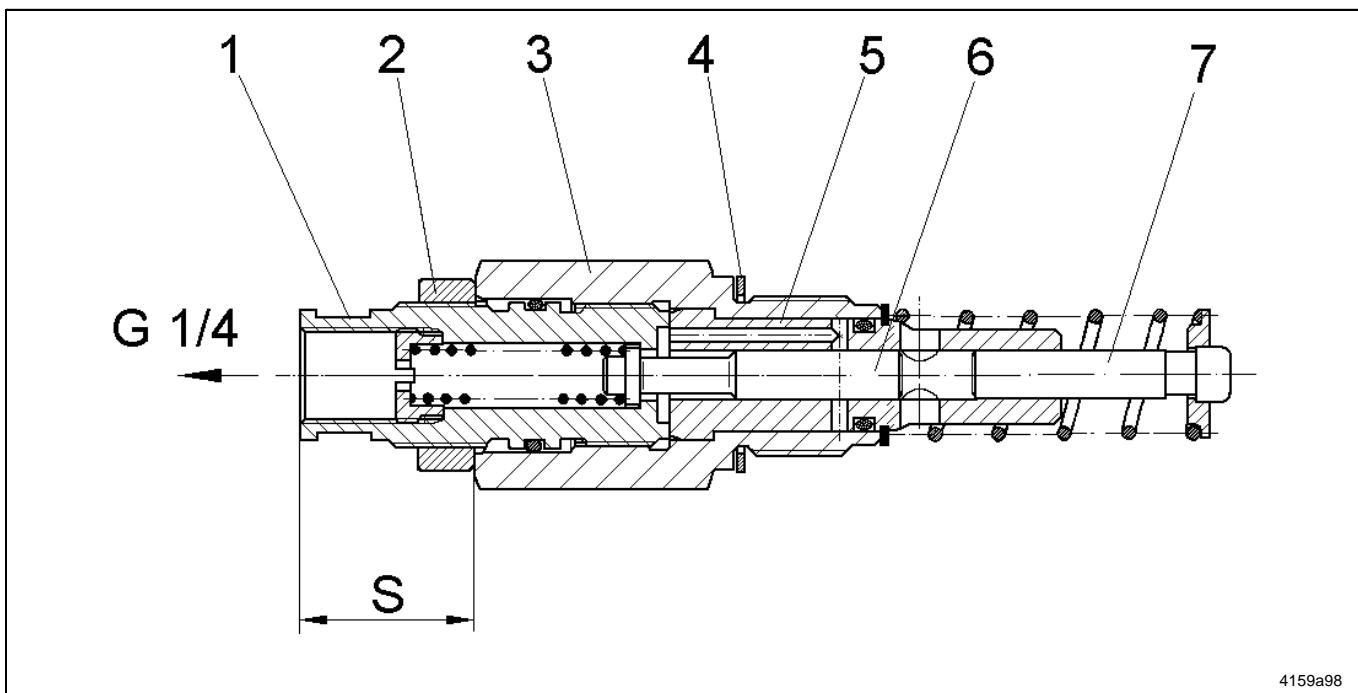
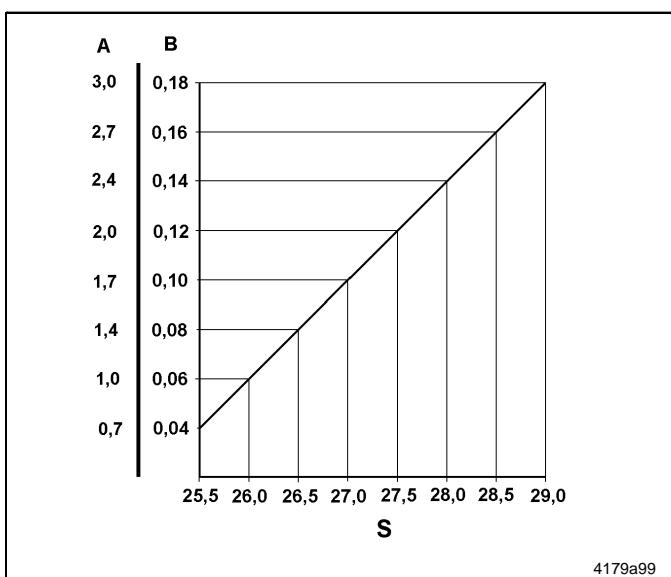

Fig. 14 Sectional view: adjustable element
Fig. 15 Supply diagram
- ⇒ Loosen counter nut (pos. 21)) while holding in position pump element body (pos. 3) by means of a second wrench.
- ⇒ Change the position of the adjusting spindle (pos. 1) by means of a wrench.
- ⇒ The dimension "S" (see Fig. 14) for the desired lubricant output can be ascertained by using the delivery diagram shown in Fig. 15.
1) All indications of positions refer to Fig. 14.
- Dimension "S" must be adjusted to the desired value in accordance with the delivery diagramm (Fig. 15, page 15).